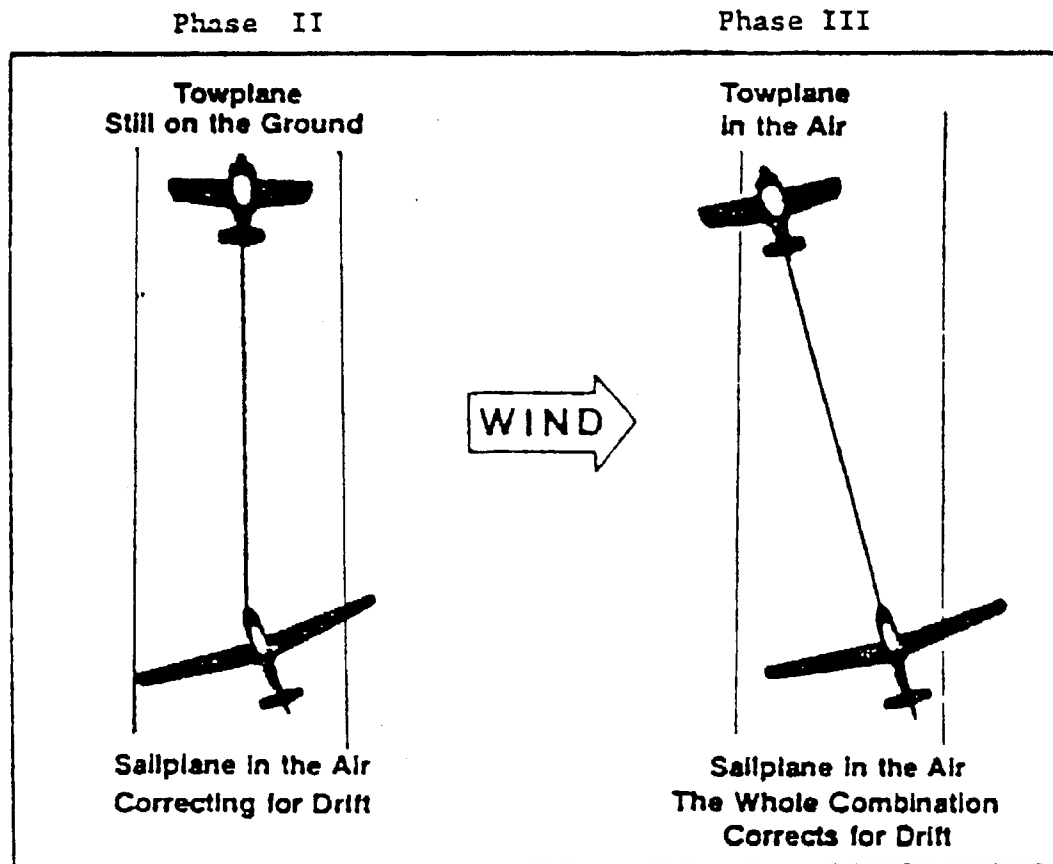

Figure 5-3
b. Phase II. As the sailplane becomes airborne, you should establish a crab into the wind using rudder.(Fig. 5-3). Keep wing level. Stay directly behind the tow plane on the runway and, again, **stay low** without descending back to the runway.